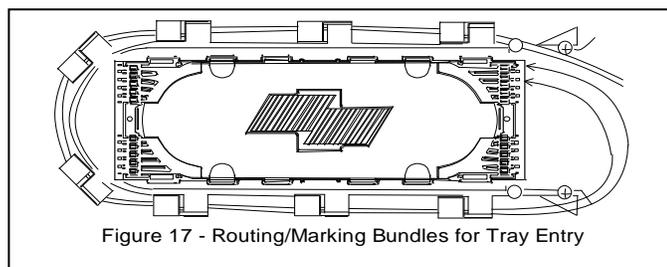

Figure 17 - Routing/Marking Bundles for Tray Entry
15.04 Route all bundles around the inside center section of the frame and direct them towards the top of the tray. Refer to **Figure 17**.